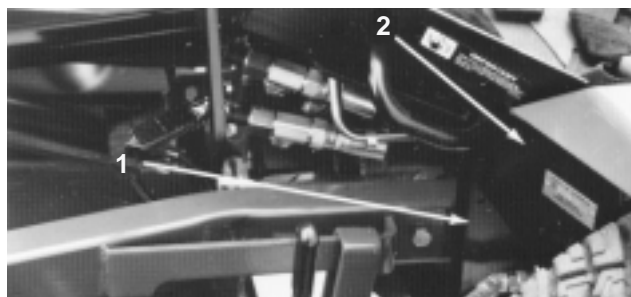

Figure 67
4. Remove the 2 capscrews and locknuts securing cutting unit carrier frames to traction unit lift arms (Fig. 67).